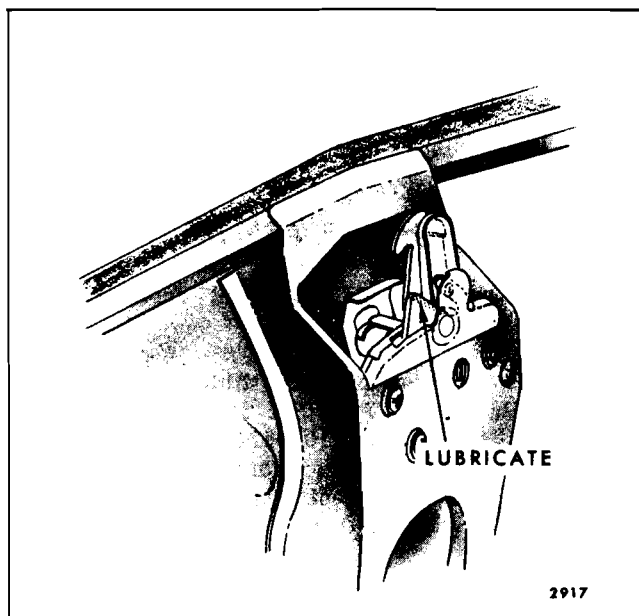

Fig. 2-1—Front Compartment Lid Lock Lubrication
2. Apply a thin coat of white lithium soap grease (Auto-Lube "A", Part No. 1050110, or Spray-Lube "A", Part No. 1050520 or equivalent) to the contact surface of the fork bolt (Fig. 2-1).